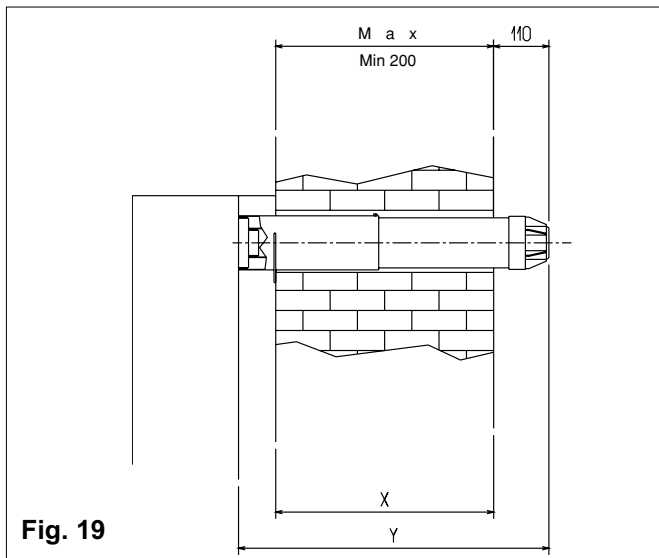
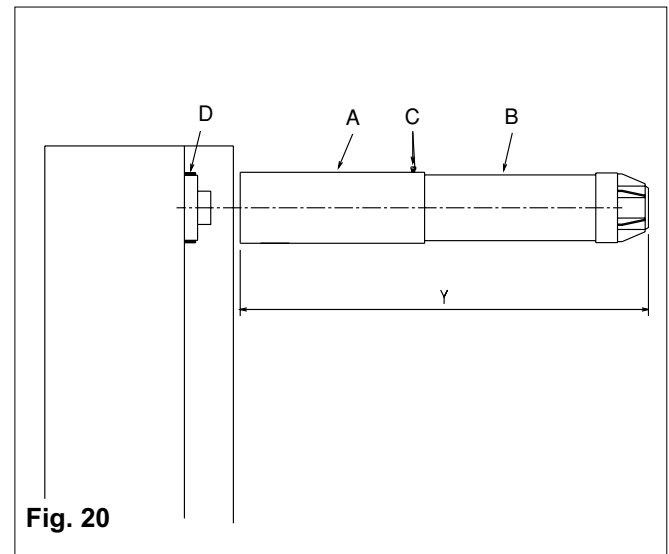

Fig. 19
Fig. 20
11.1 FITTING THE FLUE (see fig. 19)
Carefully measure the thickness of the wall (dimension x - fig. 19). Take the outer concentric flue pipe (A) and – using a twisting action – ease it over the inner concentric flue pipe (B) (see fig.20). Add 210 mm to ' x ' to give you dimension ' y '. Push both the inner and outer concentric flue pipes together until the total length of the flue assembly is equal to dimension ' y '. Secure the flue assembly in place by using the screw provided (C).
Pull the flue assembly firmly towards and over the appliance flue spigot (fig. 20 a) and – using a twisting action – ensure the correct seal is made. Insert the locking collar (E) into the groove on the flue assembly as shown in fig.20 a and rotate to conceal.